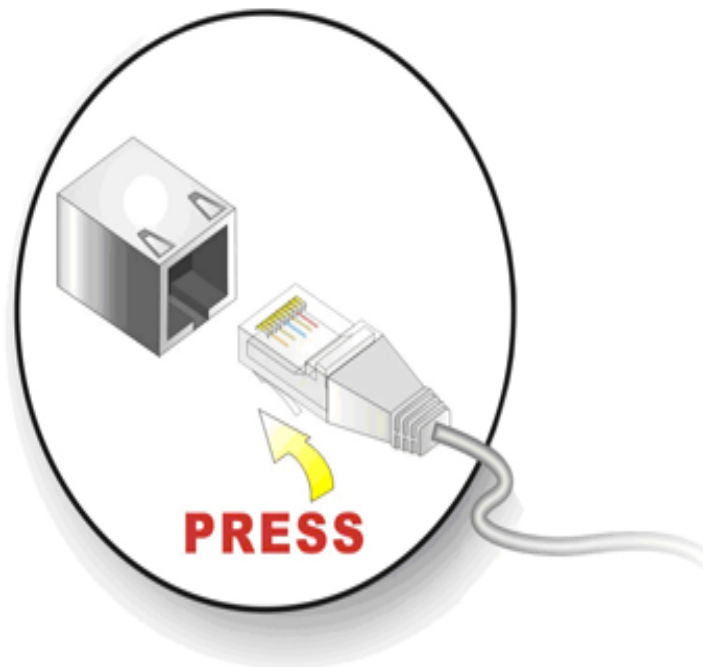

Figure 5-17: LAN Connection
Step 2: **Align the connectors.** Align the RJ-45 connector on the LAN cable with one of the RJ-45 connectors on the 3307800. See **Figure 5-17**.